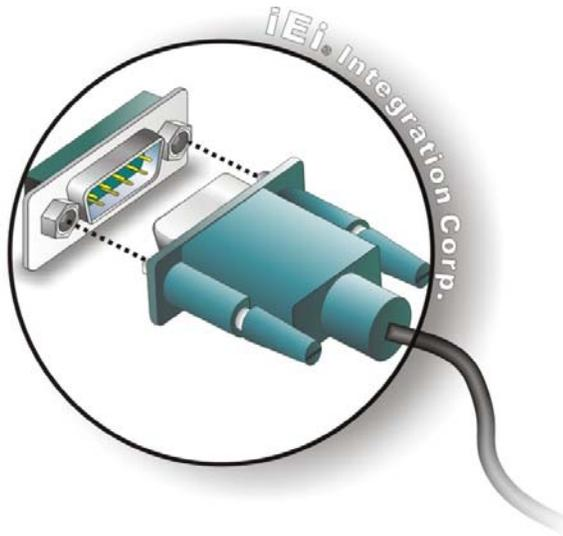

Figure 4-19: Serial Device Connector
- Step 2:** **Insert the serial connector.** Insert the DB-9 connector of a serial device into the DB-9 connector on the external peripheral interface. See **Figure 4-19**.